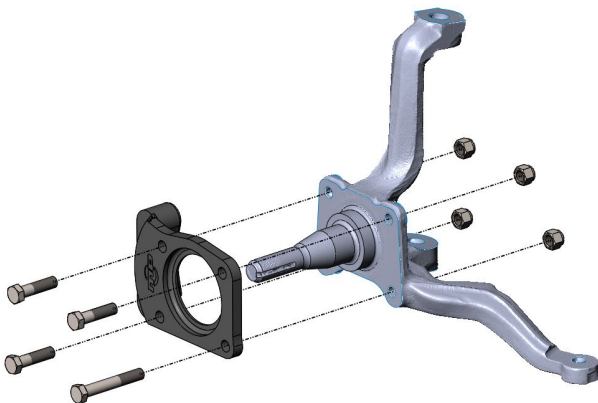

Figure 1a – Caliper Bracket Installation (Front)
3. Install the billet aluminum caliper mounting bracket onto the spindle. To install, use the provided (3) 3/8"-24 x 1 1/2" Grade 8 bolts and (1) 3/8"-24 X 2 1/2" Grade 8 bolt along with (4) 3/8"-24 Nyloc lock nuts. The longer of the bolts installs in the bottom hole closest to the steer arm. See Figures 1a and 1b below for reference. Torque the bolts to 45 ft/lbs.